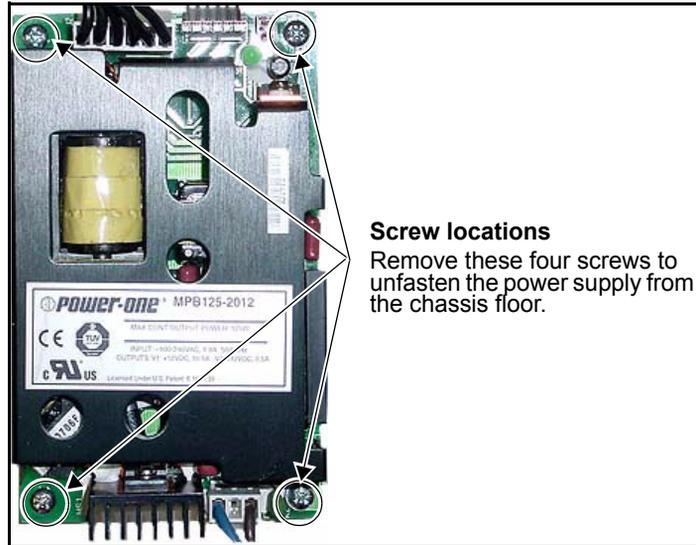

Figure C-28. Removing the Power Supply
Figure C-28 shows the location of the four screws you need to remove. Keep these screws for later reuse.
2. Install the power supply onto the four standoffs on the chassis floor, and then screw into place. (See Figure C-28 on page 292.)